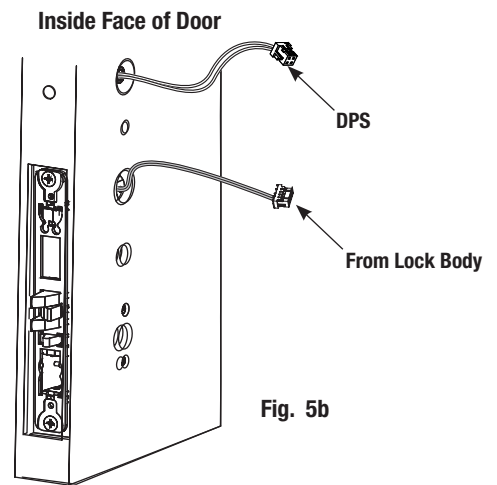

Fig. 5b
- Pull wires through hole while inserting lock body. DO NOT push wires back into cylinder hole (Fig. 5b).